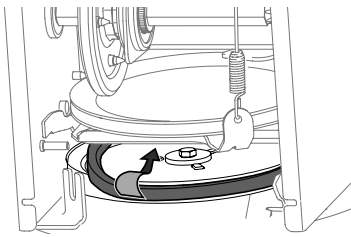

Figure 77
- Remove belt from around auger pulley, and slip it between support bracket and auger pulley (Figure 77).